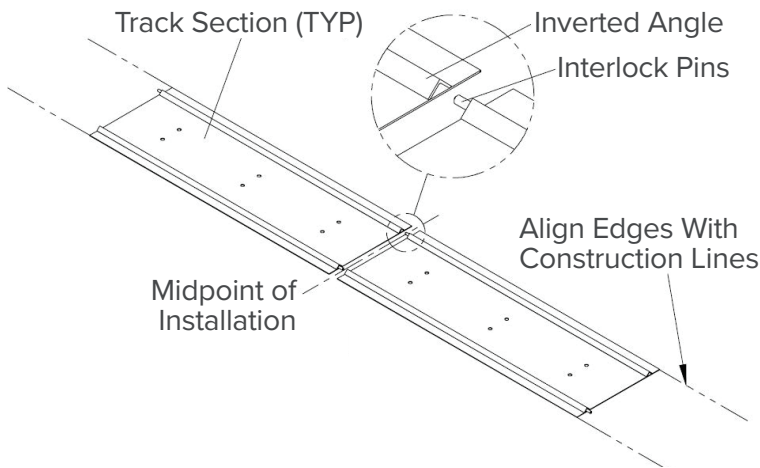

Figure 8
- 1. Position and assemble the track on the foundation** (Figure 8). Move two sections of the track to the midpoint of the assembly. Completely interlock the pins and inverted angles on the sections. Position the midpoint of the engaged sections at the exact midpoint of the assembly, taking care to align the outside of the track edges with the construction lines made earlier. Interlock the remaining track sections with those already positioned.